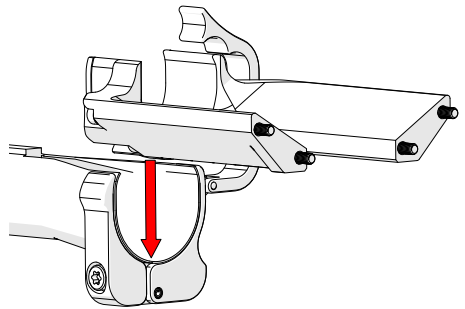

Fig. 65 - Slide mount into tube
4. Place the cable management mount on top of the tube, pinching the tube between the mount and clamp (Fig. 65).